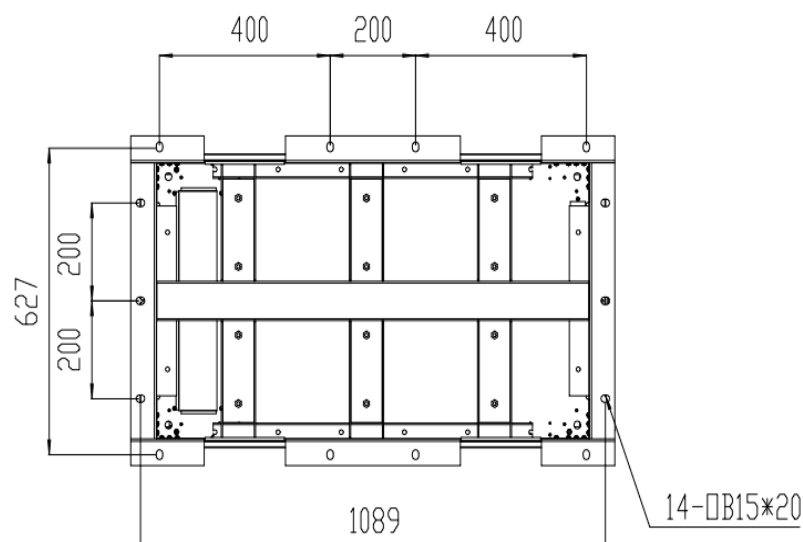

Figure 3-8 Dimensional drawings of seismic fixed device
- The seismic fixed device and equipment dimension diagram is shown in Figure 3-8: